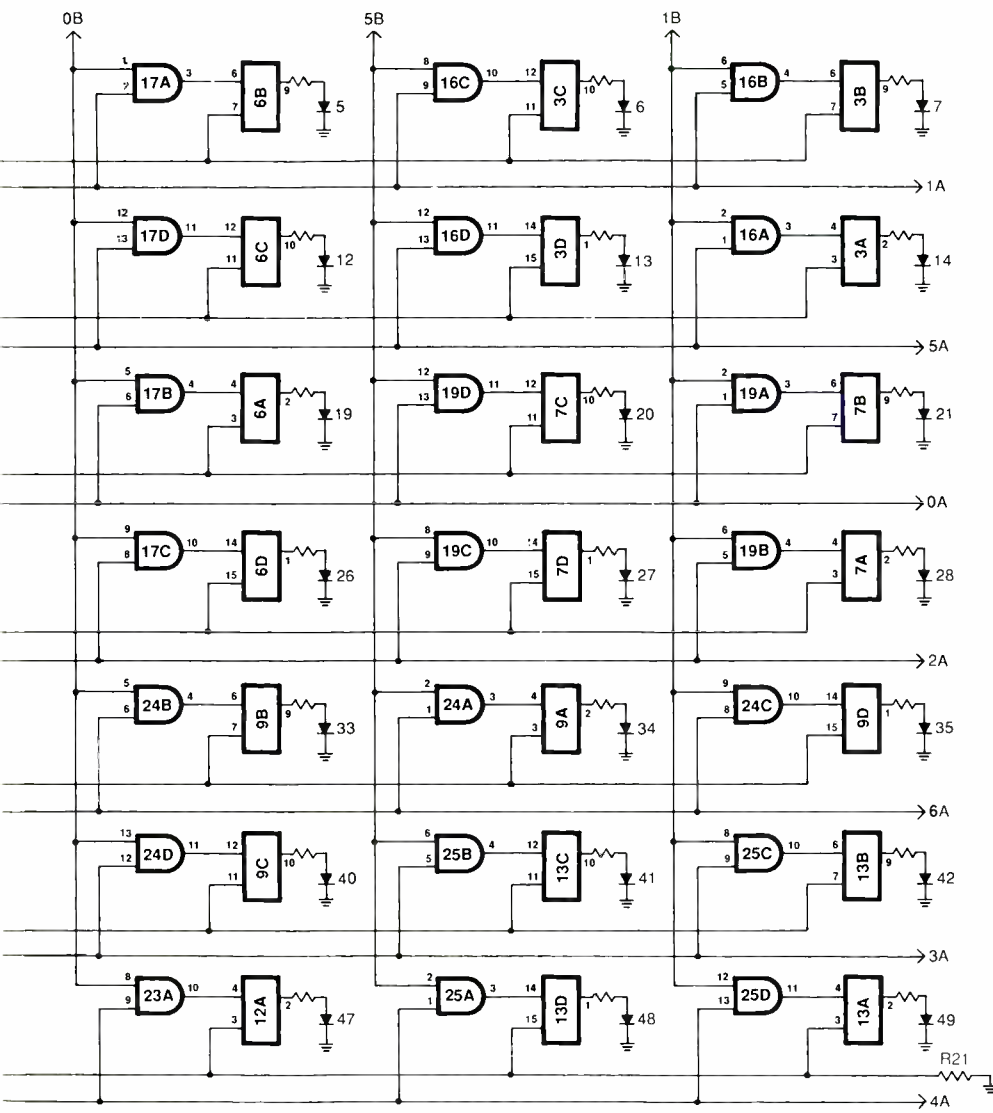

Fig. 1(B)
Because of its very large size, the schematic diagram of the Lottery Number Selector is shown in Fig. 1 in four parts. Part (A) contains the circuitry for the dual-oscillator/counter/driver circuit; Part (B) contains the circuitry for the gate/flip-flop/LED circuits; and Part (C) shows power distribution and capacitor bypassing for all ICs.